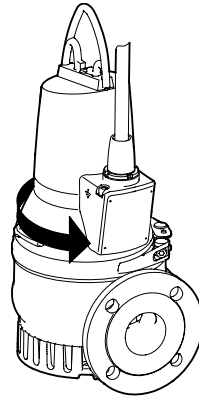

Fig. 9 Jerk direction
3. If connected correctly, the pump will jerk in the opposite direction of the direction of rotation, see fig. 9. If not, interchange any two of the incoming supply wires.